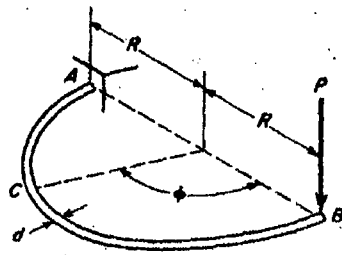

Fig.3 (b)
- (b) A shaft of diameter d , bent in the form of a semicircle AB of radius R , is built-in at A and loaded at B by a force P acting perpendicular to the plane of the ring as shown in Fig.3 (b). Thus any cross-section C of the ring is subjected to both bending and torsion. Assuming that d is small compared with R so that the theory of bending of straight bars may be used, find the value of Φ for which the principal stress σ will be a maximum.